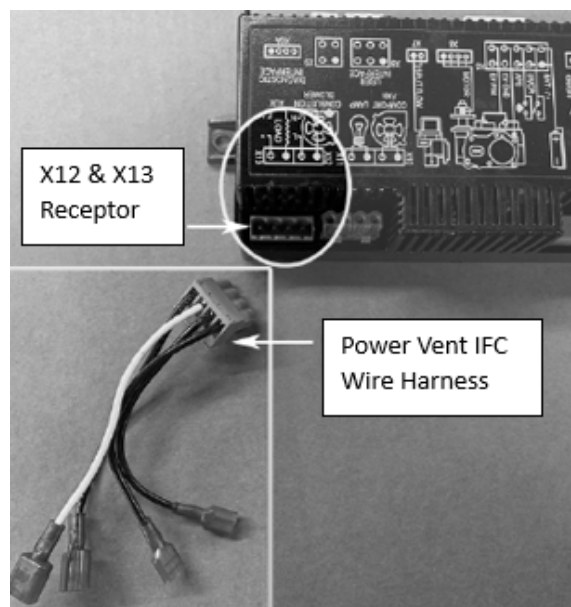

Figure 6.16 - Power Vent IFC Wire Harness and the X12/X13 Location of IFC Module
5. Ensure you complete the necessary preparation steps in Section 7.0 before this step. Locate the Power Vent IFC wire harness in the components packet. Plug the connector into X12 and X13 plug receptor. See Figure 6.16.